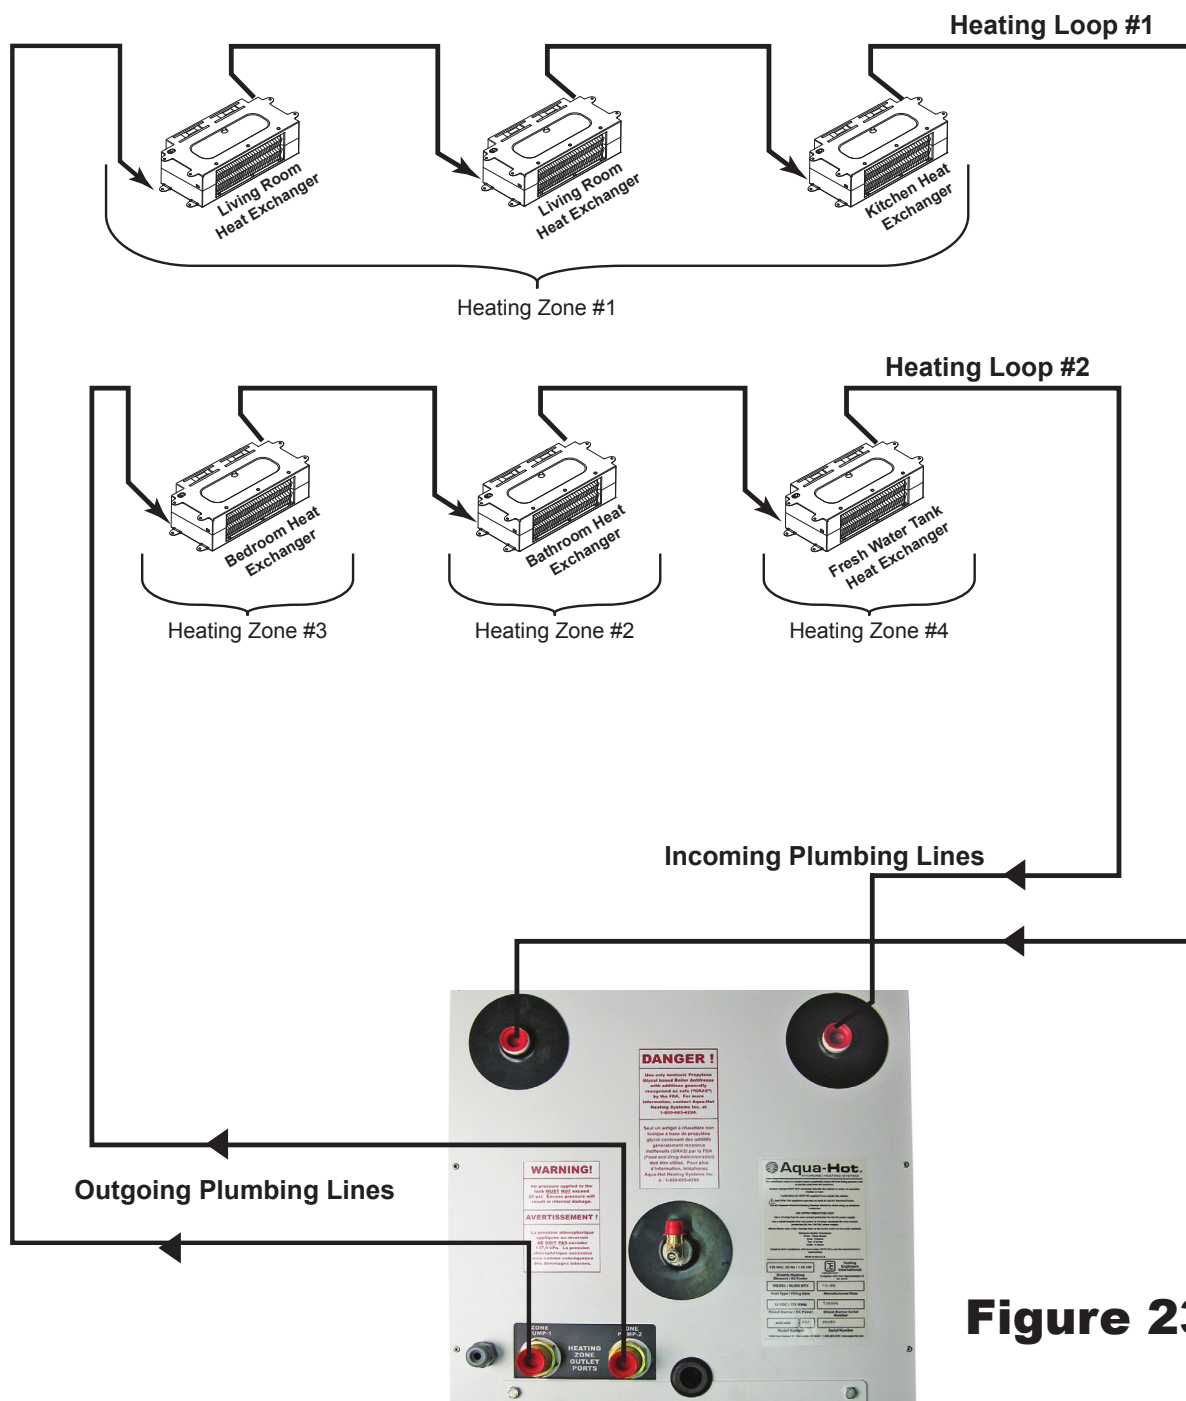

Figure 23
4. Wire all heat exchangers in a zone in-series. Reference Figure 23 and Appendix A.
The kitchen and living room heat exchangers (typically three) must be plumbed together **in-series** on “Heating Loop 2.” Reference Figures 23 and 24.
The fresh water tank, bedroom, and bathroom heat exchangers (typically 3) must be plumbed together **in-series** on “Heating Loop 1.” Reference Figures 23 and 24.
3. Connect and clamp the outlet line from the Aqua-Hot to the lowest port on the closest heat exchanger for both heating loops. Reference Figures 24 and 26. Then, connect each additional heat exchanger in the same arrangement (low to high). Reference Figure 23.
5. Connect and tighten all interior plumbing lines, outlet and inlet, to the Aqua-Hot's appropriate heating loop ports. Reference Figures 23 and 26.